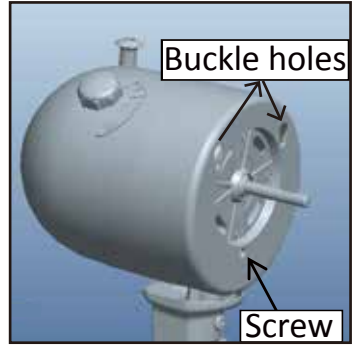

Figure 1.
1. Unscrew the **Screw** on the front of the motor. **Figure 1**